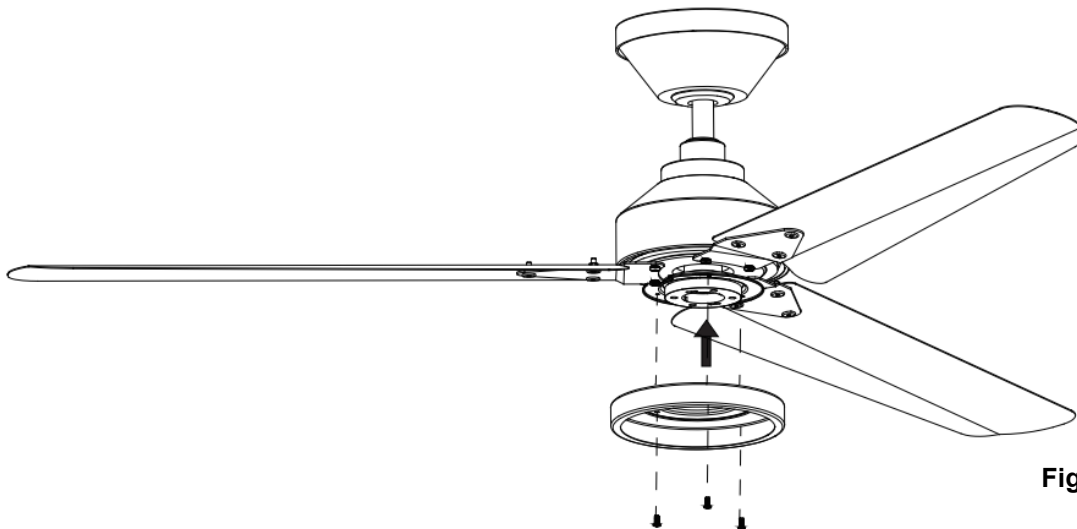

Fig. 10
2. Install the light kit plate onto the fan assembly bracket by tightening the 3 screws. (Fig. 10)